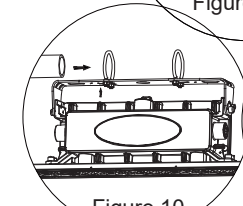
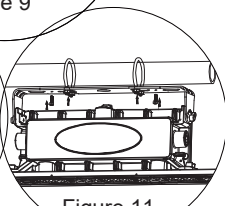

Figure 10
Figure 11
3. Insert the U-shaped bolt of the fixture into the round pipe (Figure 10); tighten the bolt M6 nut, and the other M4 hex screw from the bottom of the bracket to fix the round rod (Figure 11).